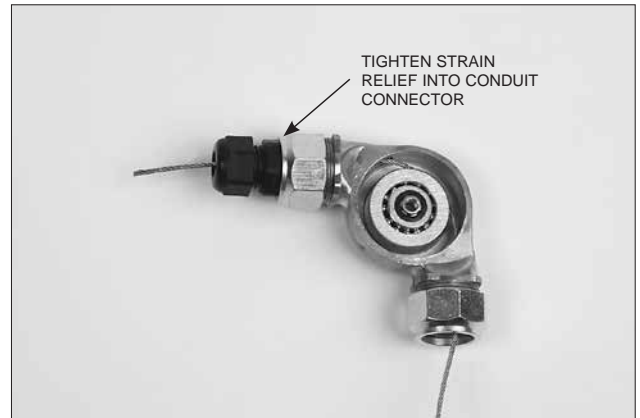

FIGURE 4-53
5. Tighten the body of the strain relief to the conduit connector. See Figure 4-53.